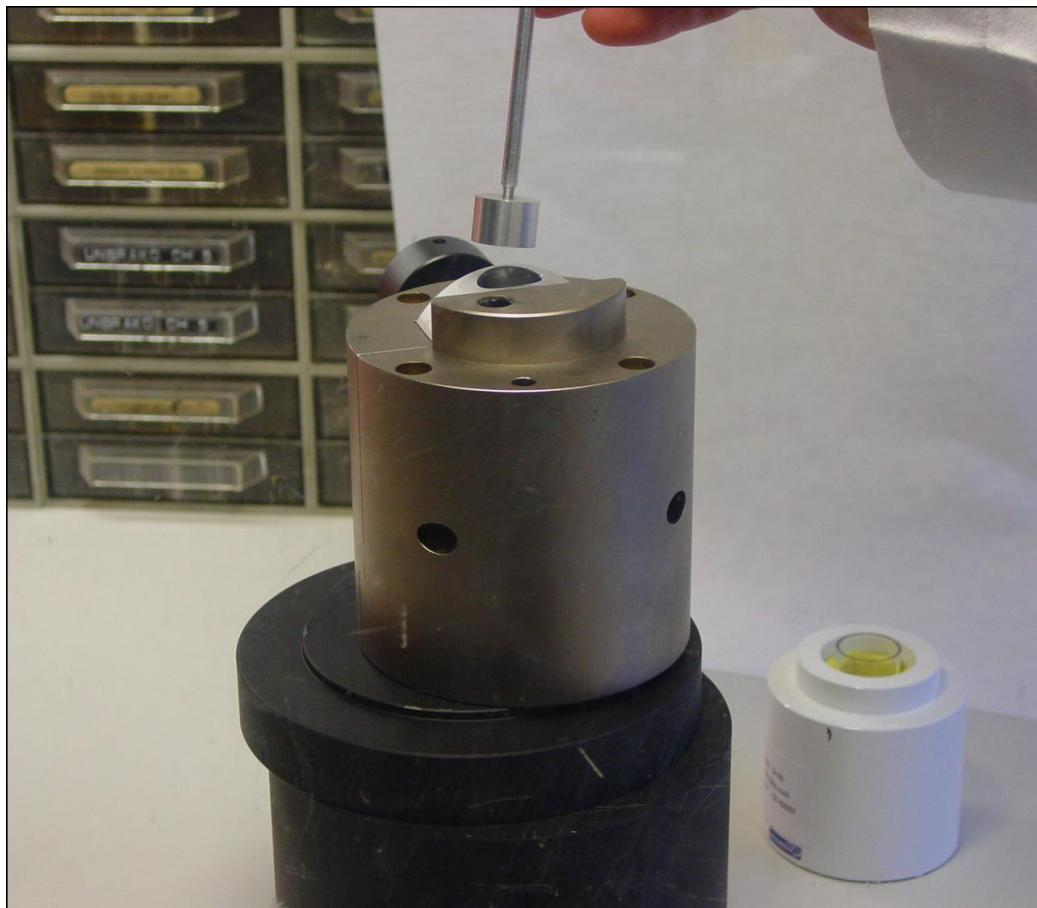

Figure 4.20: Reinsert spacers.
10. The perspex plate can now be removed for ease of access. Use the handling rod to place the short Al spacer, then the Pb spacer with spring washer and finally the long Al spacer on top of the source (Figure 4.20)